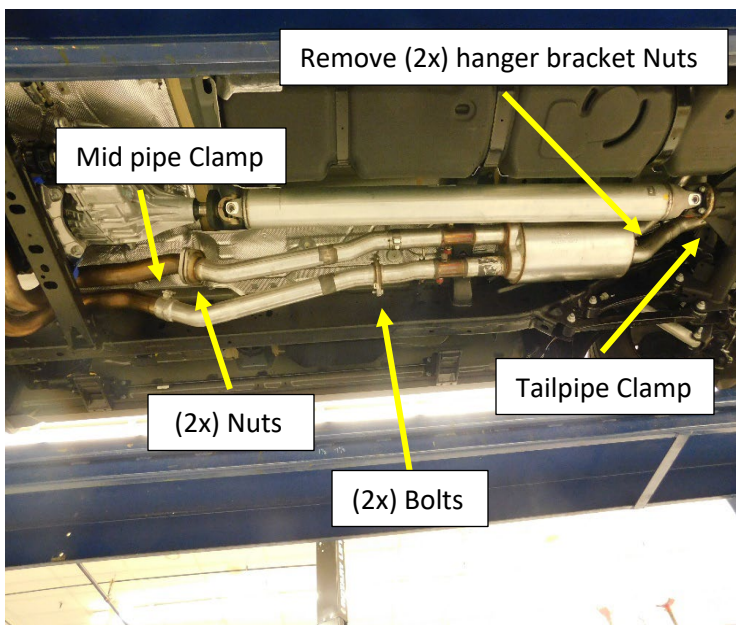

Figure.3 (H.O Shown)
3. **H.O** - Remove the (2x) bolts and (2x) nuts at the Muffler inlet pipe flanges. **Fig. 3**
4. Loosen the Clamp on the right tail pipe connection just before the axel and spray the slip connection with penetrating oil. **Fig.3**
10. Remove the mid pipe from the down pipe assembly. **Fig.3**